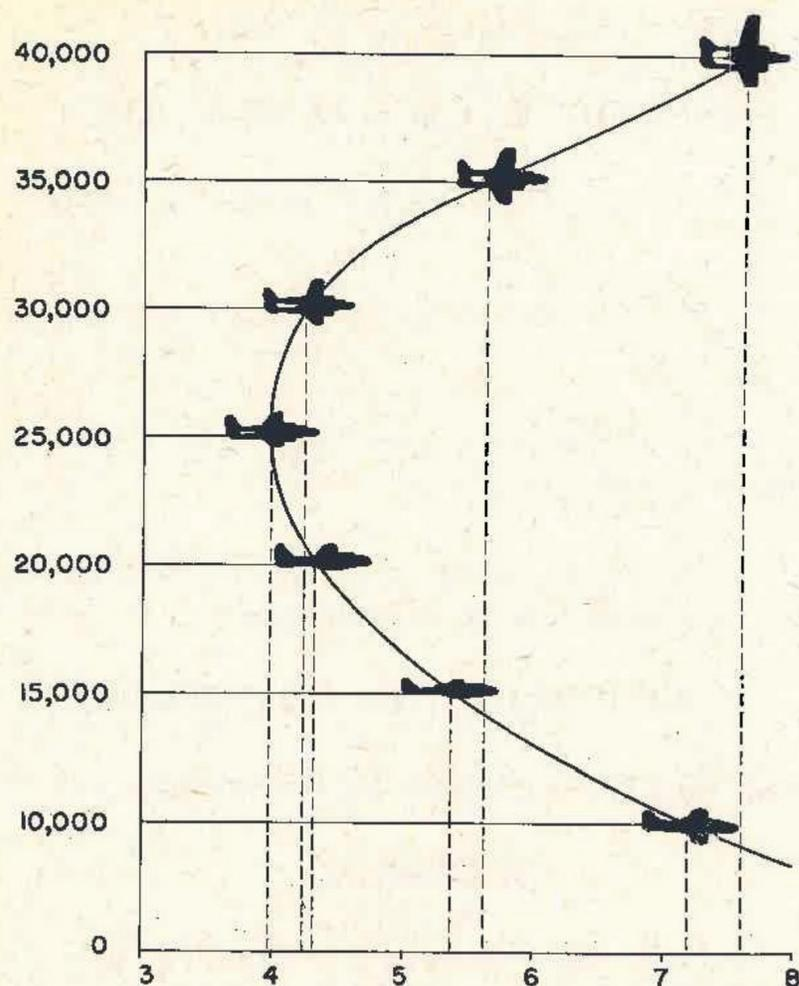

Figure 36 - Oxygen Consumption Chart
f. A pressure of 425 lbs. indicates a full oxygen system. This is approximately a five-hour supply for each member of the crew. (Fig. 36.)